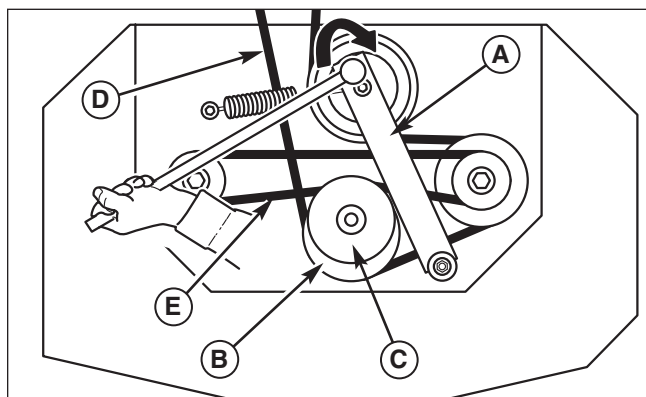
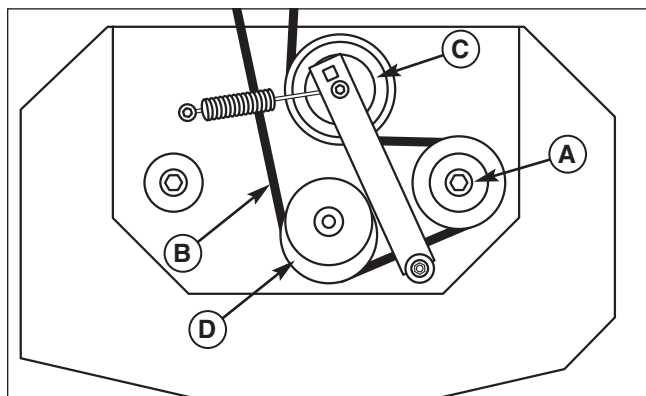

Figure 40. Mower PTO Belt
Figure 41. Mower PTO Belt Routing
3. Using a 1/2" breaker bar, place the square end in the square hole located in the end of the idler arm (A, Figures 40). Carefully rotate the breaker bar **CLOCKWISE**, which will relieve the tension on the belt exerted from the idler arm.
4. Slide the drive belt over the edge of the stationary idler pulley (B). Carefully release the tension on the breaker bar.
6. Install the deck drive belt on the PTO pulley, the spindle pulley and the adjustable idler pulley. Do not install the deck drive belt on the stationary idler pulley (B, Figure 41) at this time.
10. Carefully rotate the breaker bar **CLOCKWISE** and install the deck drive belt on the stationary idler pulley (D, Figure 41). Carefully release the tension on the breaker bar. When the idler arm is released it will position the stationary idler pulley and the chevron belt idler pulley (B & C, Figure 40) in the correct position.